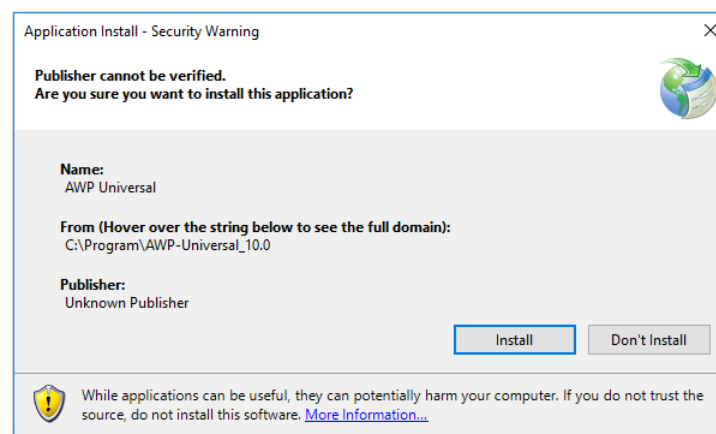

Figure 2.75 – Installation AWP\_UD3701
5. Install the program for device operation. For this launch installation file (setup.exe) from folder «AWP\_UD3701» and click «Install» (Figure. 2.75).